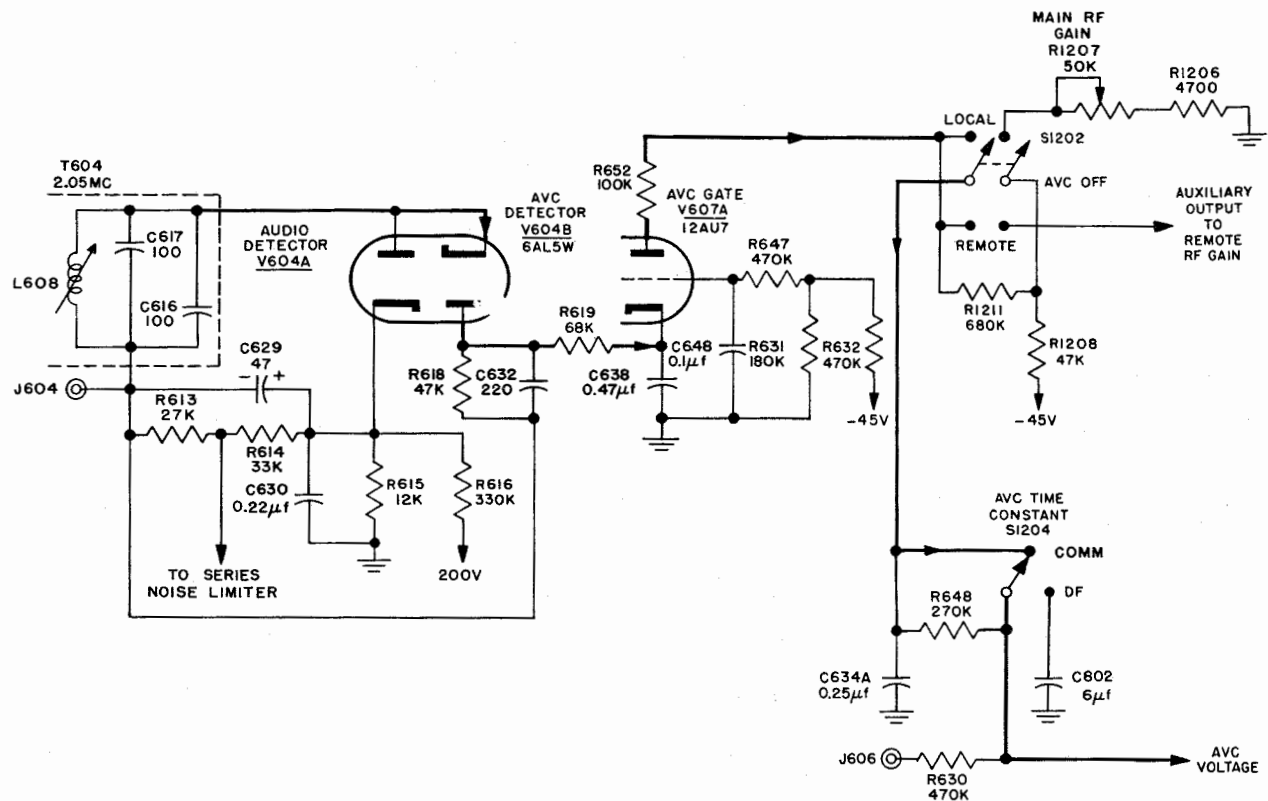

Figure 4-15. Radio Receiver R-278B/GR, Multi-channel Receiver Section, AVC Detectors and AVC Gate, Simplified Schematic Diagram
**6. AVC DETECTORS AND AVC GATE.**—A simplified schematic diagram of the AVC circuit is shown in figure 4-15. This circuit includes avc detector V604 and avc gate V607A with its associated circuit. Three controls on the front panel are associated with the avc circuit: AVC TIME CONSTANT switch, MAIN RF GAIN and AVC ON-OFF switch (labelled LOCAL-AVC OFF-REMOTE). The purpose